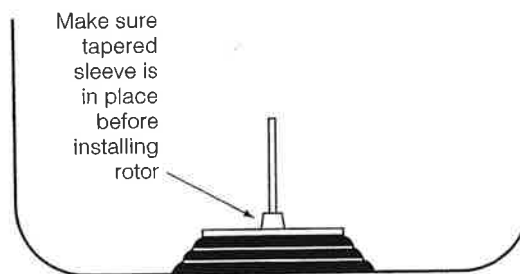

Figure 3-1. Tapered Sleeve Position
2. Press the power switch to on (I).
5. Make sure that the tapered sleeve is in place at the base of the centrifuge drive shaft before installing the rotor (see Figure 3-1). The rotor rests on the sleeve while spinning, and will not operate properly if the sleeve is missing. Wipe the sleeve to be sure that it is clean and dry.